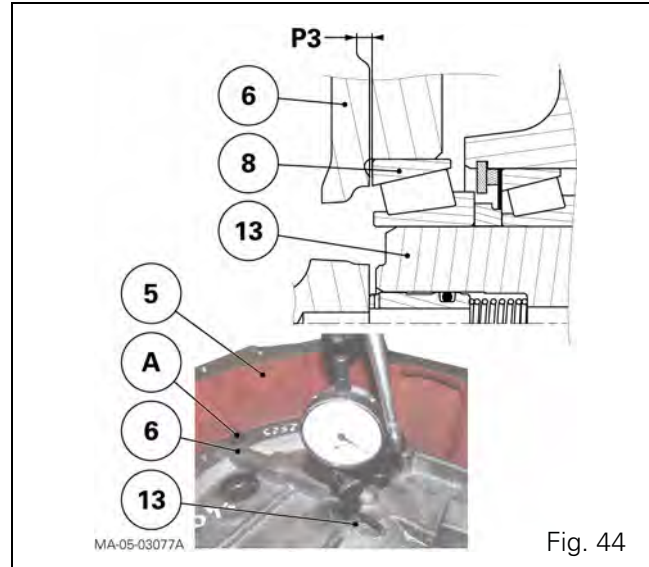

Fig. 44
122. Refit the cover (6) on the housing (5). Fit and tighten the cover screws (A) (Fig. 44).